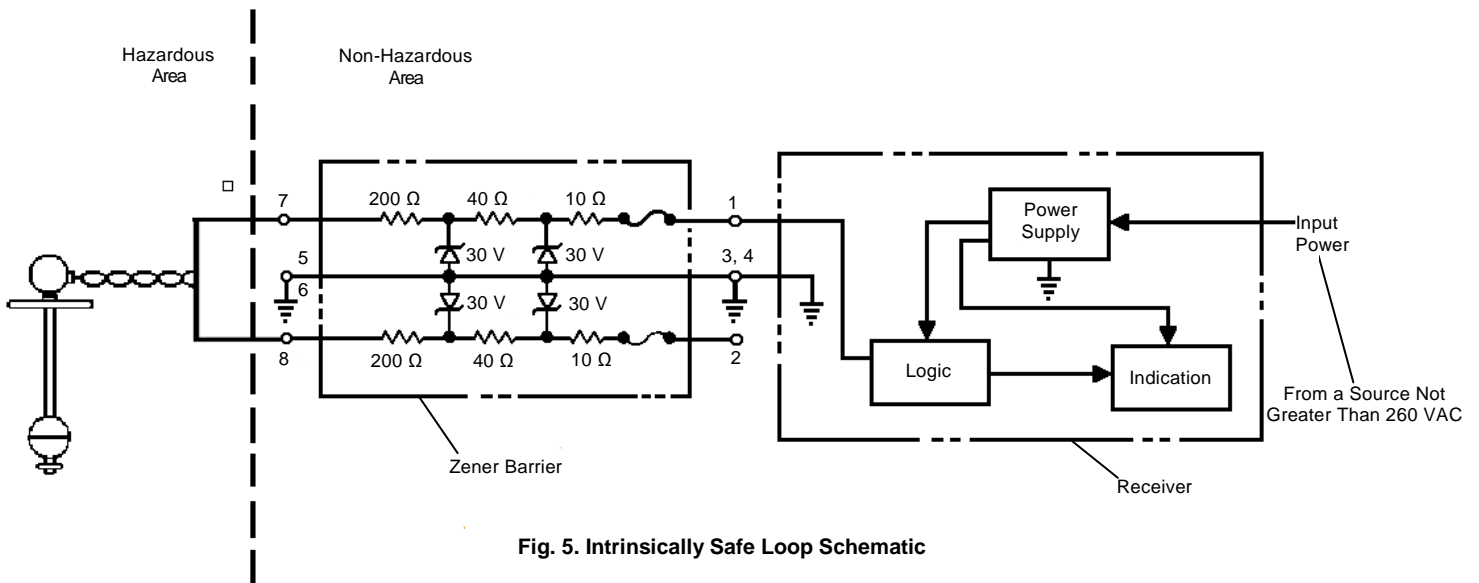

Fig. 5. Intrinsically Safe Loop Schematic
C. Test performance (See Fig. 5)